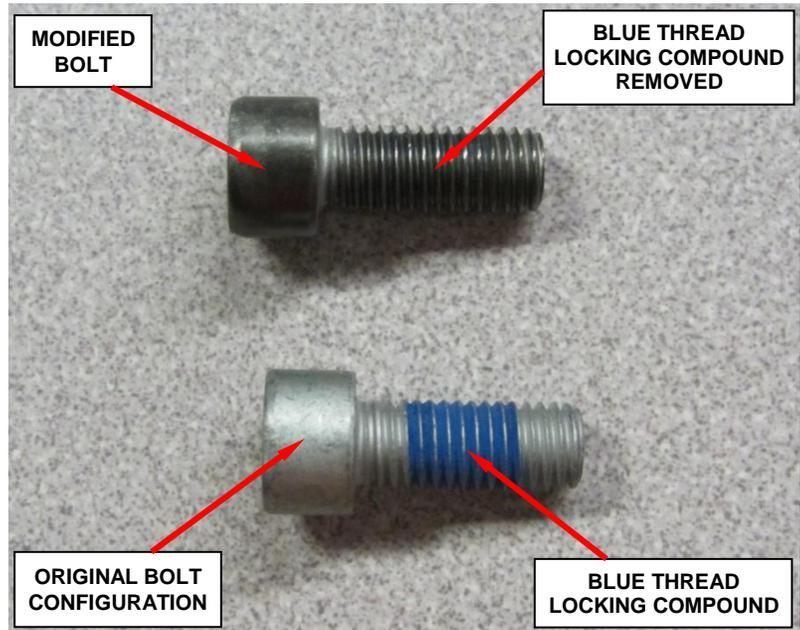

Figure 51 – Create Installation Tool
16. Create an installation tool from a M10-1.5 x 25mm bolt (P/N 06508295AA). Remove the blue thread locking compound from the bolt as shown in Figure 51. Install this bolt into one of the riv-nut holes finger tight.